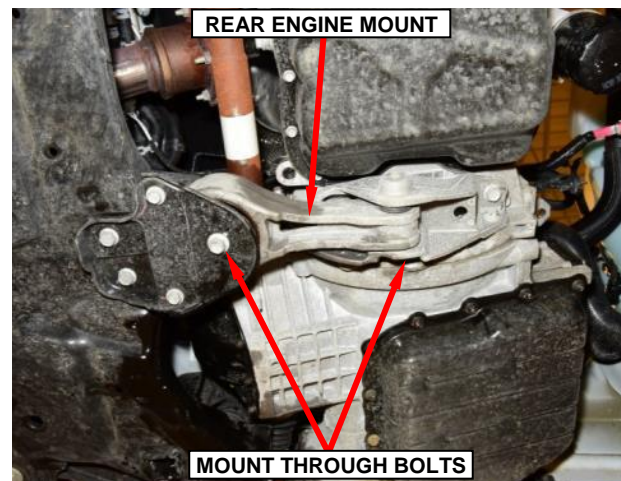

Figure 89 – Rear Engine Mount
71. Remove and save the rear engine mount through bolts (Figure 89).
72. Remove and save the rear engine mount (Figure 89).